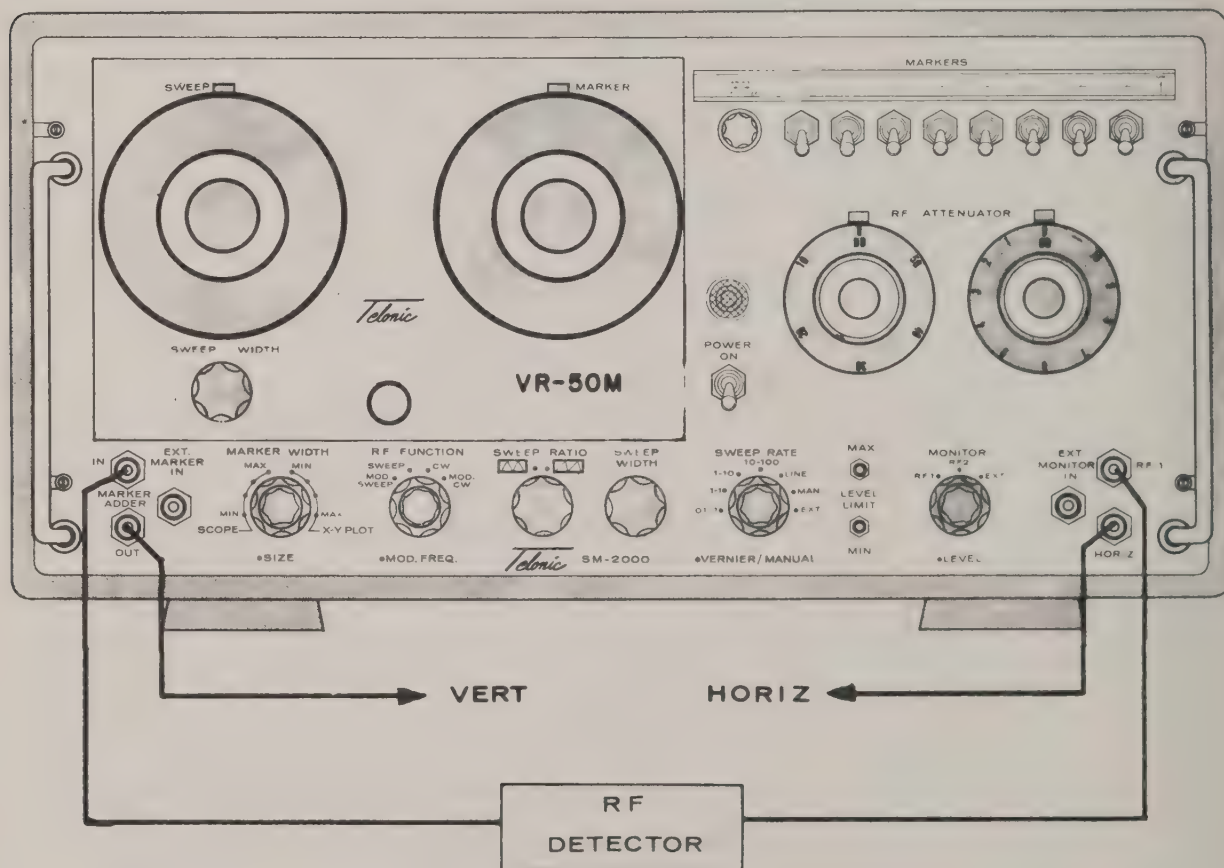

Figure 4-2. Performance Check Test Connections
c. Connect the SM-2000, detector, and oscilloscope as shown in figure 4-2.
(1) Horizontal Drive - External
(2) Horizontal Gain - 10 cm display
(3) DC Vertical Gain - 0.1V/cm
b. Connect the SM-2000, detector and oscilloscope as shown in figure 4-2.